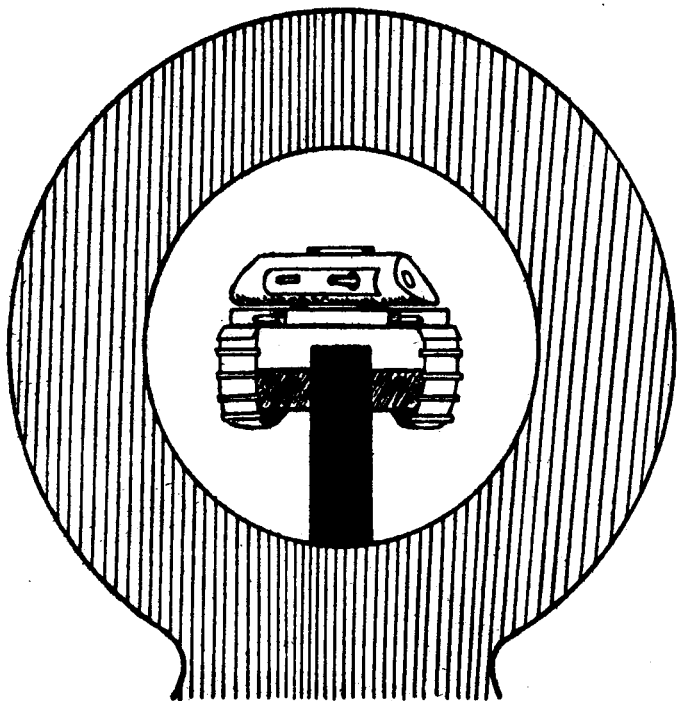

Fig. 4. Correct aim approaching tank.
Explain, using diagrams, that the method, of aiming is the same as that employed with the L.M.G. (*see* Fig. 4), but that with the anti-tank rifle the targets will normally be moving. The following rules will be applied when firing at A.F.Vs.:—
- i. When stationary, approaching, or retiring, aim at the centre (*see* Fig. 4).